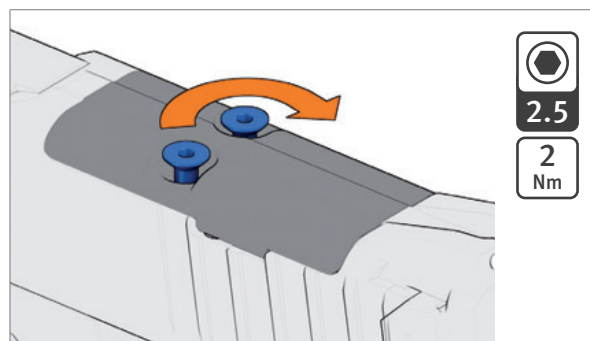

Fig. 32: Tighten screws
4. Tighten screws until the torque is reached (*Fig. 32*).